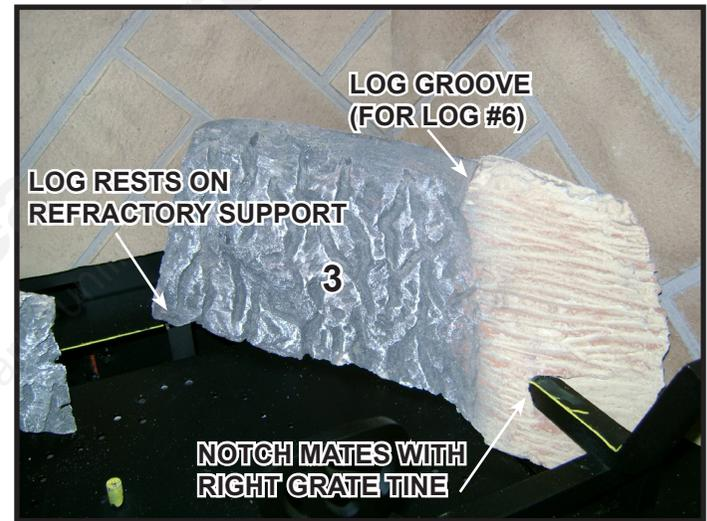

Figure 9. Log #3
**Log #3 (SRV2227-701):** Mate the notch with the right grate tine as shown in Fig 9. The back of the log should rest on the log support as shown. Rotate the back end of the log clockwise until it contacts the right refractory panel.